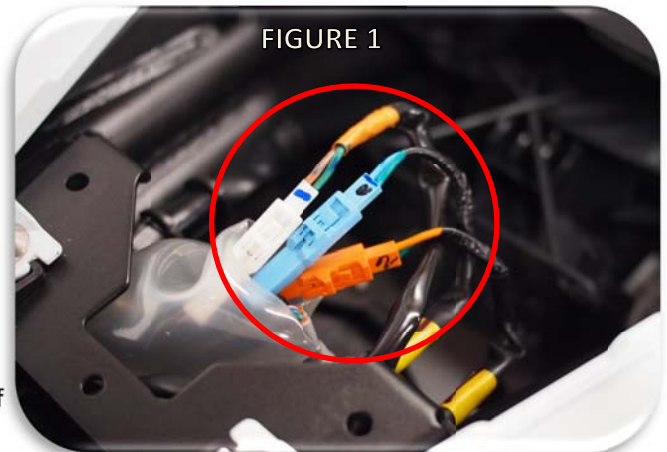

FIGURE 1
2. Pull back the clear rubber boot on the wire loom under the seat and disconnect the electrical connectors for the OEM turn signals and license plate light (white, orange, and blue connectors, FIGURE 1).